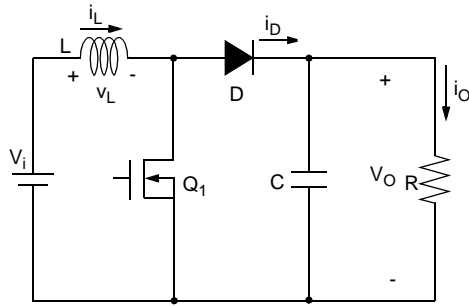

Figure 1. Basic circuit of a Step-up converter
The step-up converter accepts a DC voltage input and provides a regulated output voltage which must be greater than the input voltage. The basic circuit configuration of a step-up converter is shown in Figure 1. When switch (Q1) is turned on, the supply voltage  $V_i$  is applied across inductor (L). The diode (D) is reverse biased by voltage  $V_o$ . Energy is transferred from the input supply voltage to the inductor. When switch (Q1) is turned off, the energy stored in the inductor (L) induces a voltage such that the diode conducts and delivers the energy to the output load (R) and the output capacitor (C). In addition to the energy stored in the inductor, additional energy is transferred from the input directly to the output during the diode conduction time.